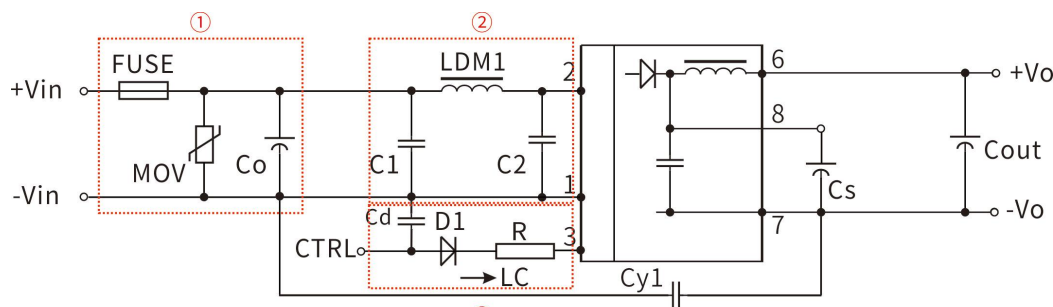

Figure 3
- ① In Figure 3, Part ① is used for EMS testing; part ② is used for EMI filtering, which can be selected according to requirements;
- ② VC is the voltage of the Ctrl terminal relative to the input ground GND, VD is the forward voltage drop of D1, IC is the current flowing into the Ctrl terminal, generally 5-10mA, and the peripheral circuit of the Ctrl terminal is shown in Figure 3-③;
- ③ If there is no parameter description attached to the component in the figure, this component is not required in the periphery of this model.